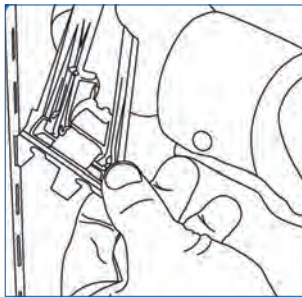
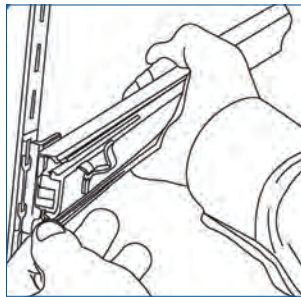

Fig. 7
Fig. 8
3. Full-extension slide attach baskets and shelves to our frames. Attach the stand slides (**PART 2**) to the frame in pairs, one level at a time starting with your lowest desired level. To attach a slide, hold the side at an angle and insert the top tab (Fig. 7). Rotate the slide and insert the bottom tab (Fig. 8). the slide will then slightly drop down.